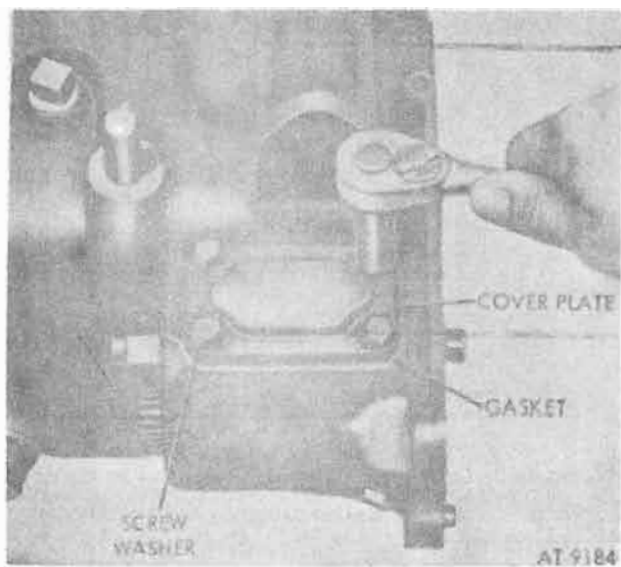

Figure 8-51. Clutch cover plate and gasket.
transmission case and then remove clutch cover and gasket (fig. 8-51).
i. Install gasket and cover on housing, using four screws and washers. Torque screws to 10-14 lb-ft. Refer to figure 8-51.